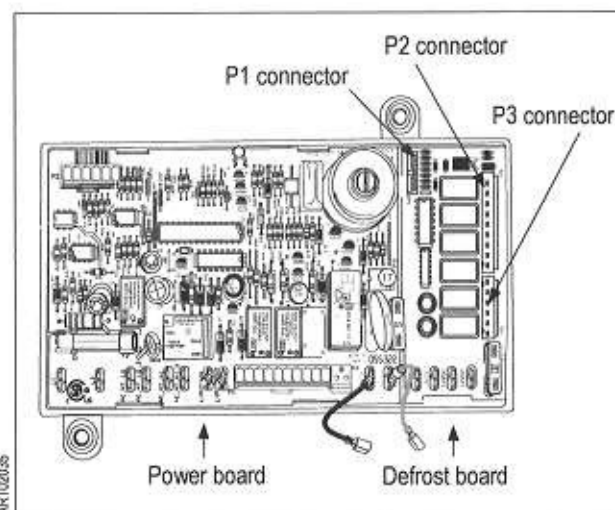

Figure 10. Power Board and Defroster Board
5. Carefully pull straight up to disconnect the P1, P2, and P3 connectors from the defrost board. Refer to Figure 10.